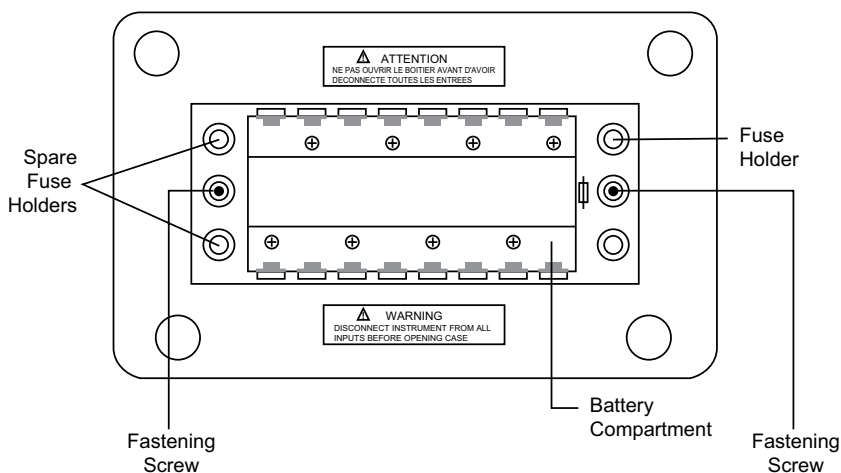

Figure 19
- Loosen the two fastening screws on the battery compartment cover, which is located on the bottom of the case (See Figure 19).